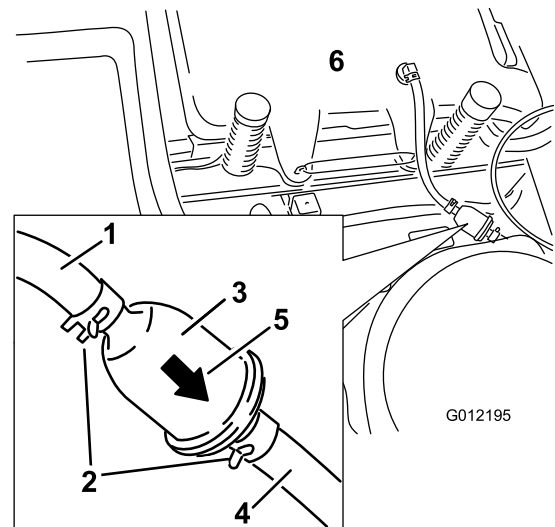

Figure 35
4. Squeeze the ends of the hose clamps together and slide them away from the filter (Figure 35).
6. Install a new filter with the flow direction arrow coming from the fuel tank and pointing to the engine. Move the hose clamps close to the filter (Figure 35) to secure it in place.